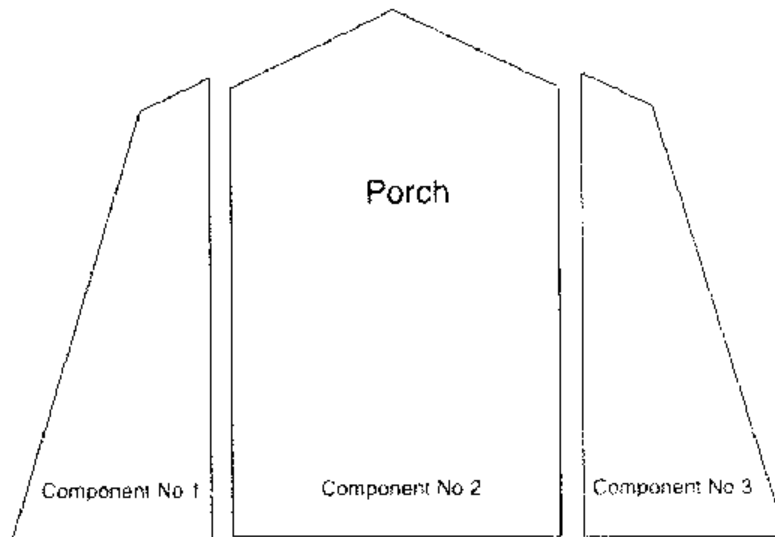

Fig 13 The Mk 3 end panel (Typical arrangement viewed from inside)
13.3 The Mk 3 end panel consists of 34 items per end and are shown in Fig 13, viewed from the inside.